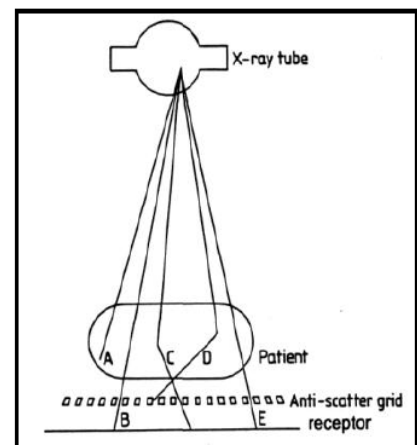

Fig. 8: The grid that used in x-ray imaging.
4. Reducing the amount of scattered radiation striking the film as much as possible by using a grid consisting of a series of lead and plastic strips, as shown in Fig. 8,